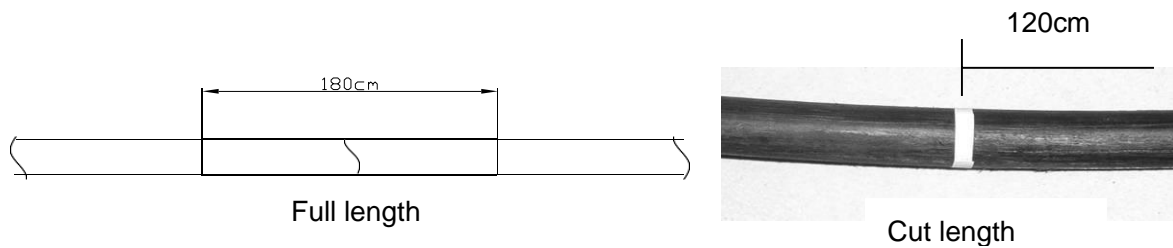

Figure 1
1) Stripping length. (Figure 1)